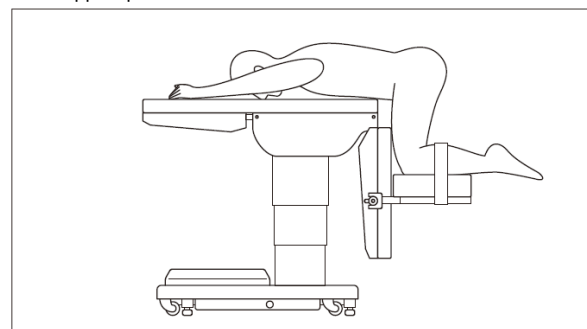
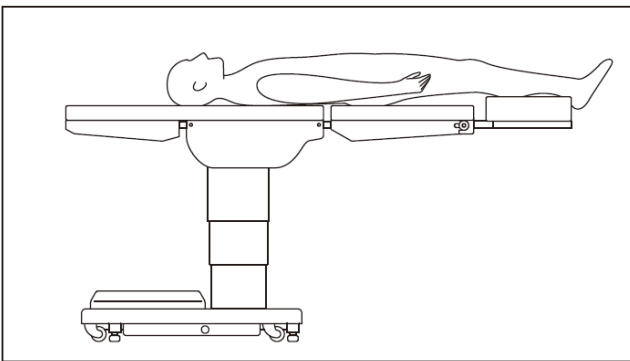
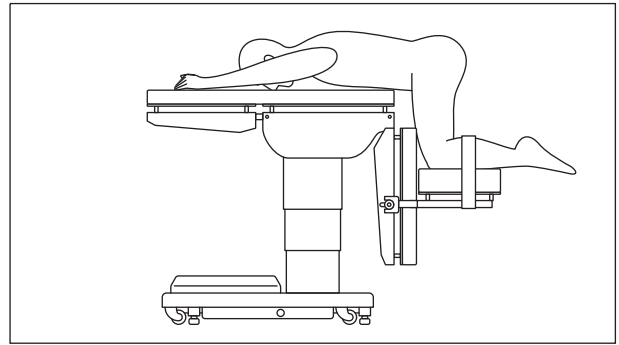
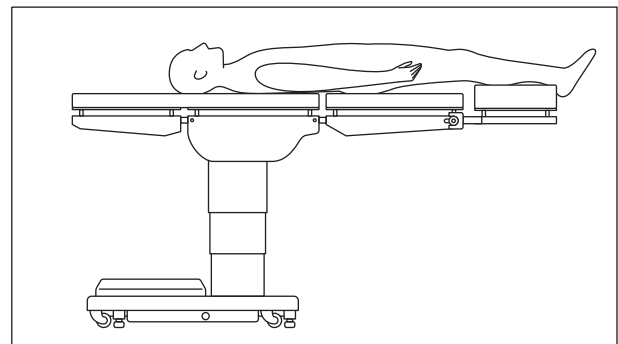

Fig.1-1
Fig.2-1
Fig.3-1
Fig.4-1
2. The Knee Rests is designed to support the patient's knees and legs as shown in Fig. 1-1, Fig.2-1, Fig.3-1 and Fig.4-1 of **Instructions for use**. Any other positioning may damage the knee rest, clamp or table, and may injure the patient.
*Note: Refer to **Instructions for use**, Fig.1-1 and Fig.3-1.
- 2-3. When using this product to support patient's leg (Fig.2-1 and Fig.4-1), read instructions for use of operating table carefully and pay close attention to the patient and devices. Patient could fall down by the condition or position of the devices.